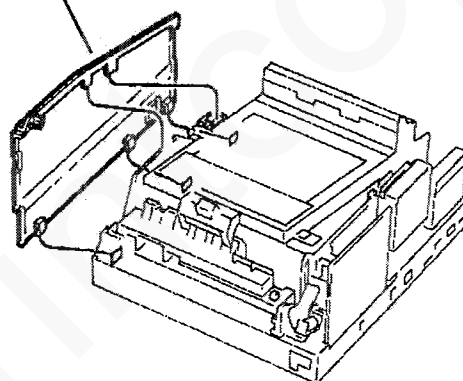

Figure 1. Left side cover removal
4. (Figure 1) Remove the left side cover.